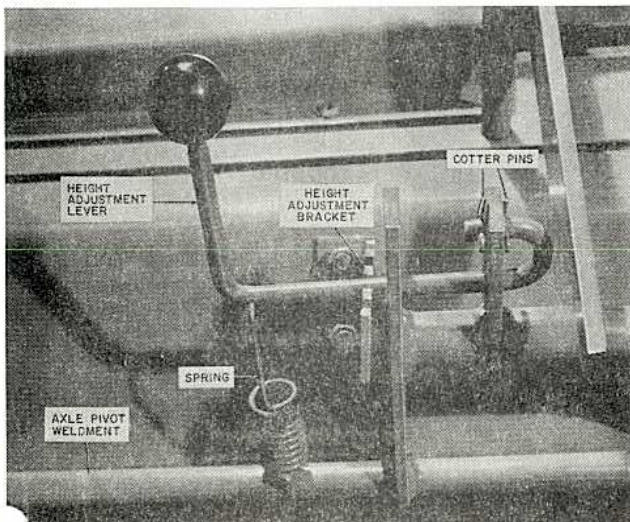

fig 3
6. Slide height adjustment lever in the 2 slots of the axle weldment. Fasten it with 2 cotter pins. Connect spring to height adjustment lever and axle. Screw knob on lever, fig 3.